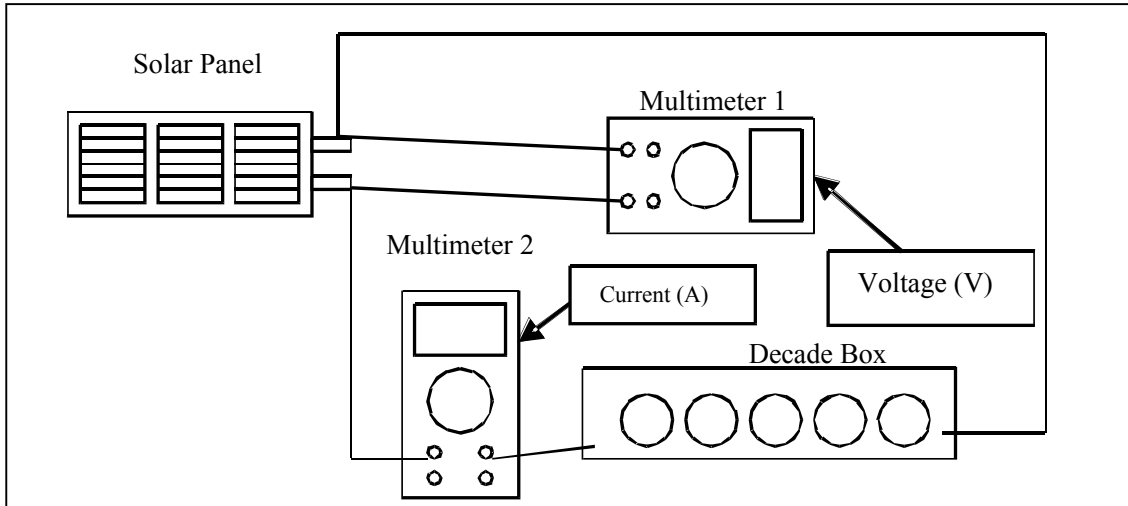

Figure 1. Diagram of a PV panel wired in series with a multimeter.
In Figure 1, the resistor (labeled decade box) is in series with the solar cell but the multimeter is in parallel with the resistor. In this condition the multimeter can measure V , but not I . You cannot use one multimeter and measure both V and I at the same time.
- 1) Lay the solar panel on a clean surface, silicon side down. Wire the panel to the multimeter as shown in Figure 1 below.